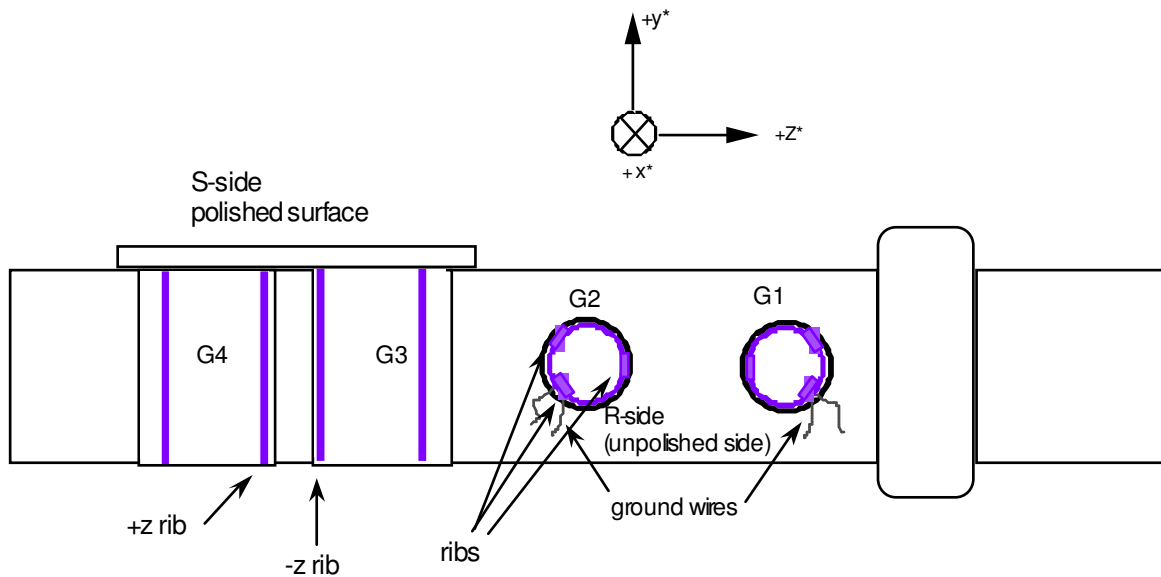

Figure 2. Local Magnetic Shields Orientation
- 6.1.4 Figure 2 shows the orientation of the Local Magnetic Shields schematically.